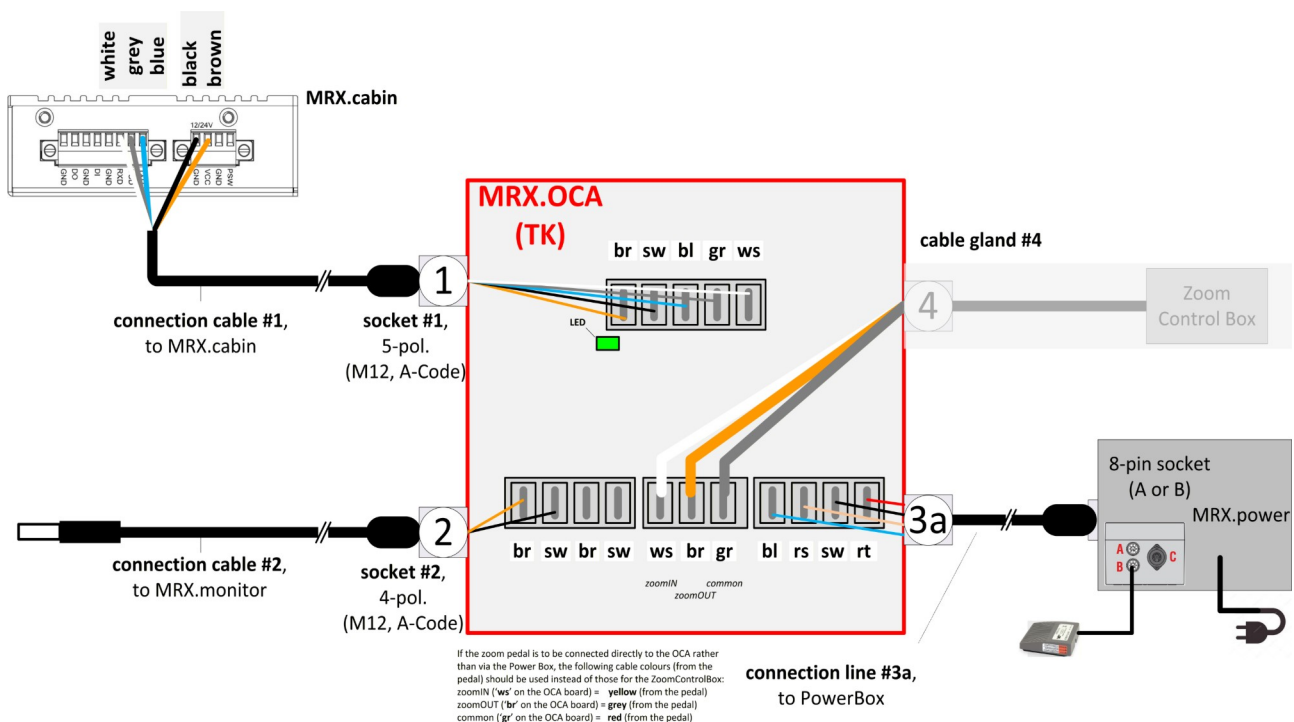

Fig. 7: Connections of MRX.oca (TK)
A detailed view can be found in Fig. 7: Connections of MRX.oca (TK). In this view, the necessary connection between **MRX.cabin** and **MRX.monitor** is missing. For this purpose, the HDMI cable and USB cable must be routed between the two devices.